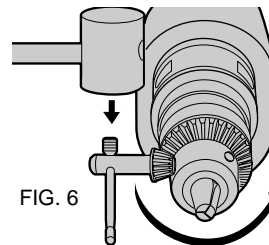

FIG. 6
2. Place chuck key in chuck as shown in Figure 6.
3. Using a wooden mallet or similar object, strike key sharply in a clockwise direction. This will loosen screw inside chuck (Figure 6).